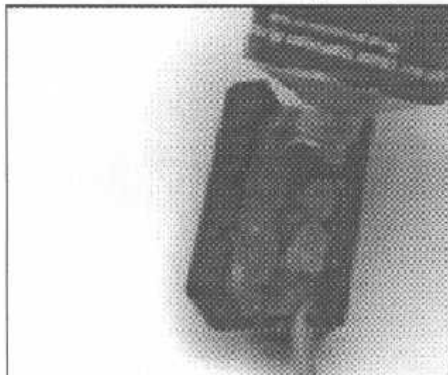

Figure 2-12. Filling the Splice Enclosure
- 10 Coat the inside of the splice enclosure with Dow Corning #4[®] or GE Novaguard GB24[®] moisture protection compound (Figure 2-12).